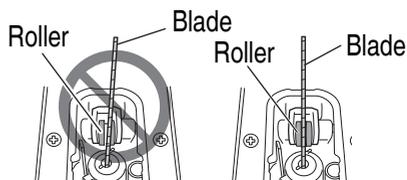

Fig. 10
- Confirm the blade located between the groove of roller. (Fig. 10).